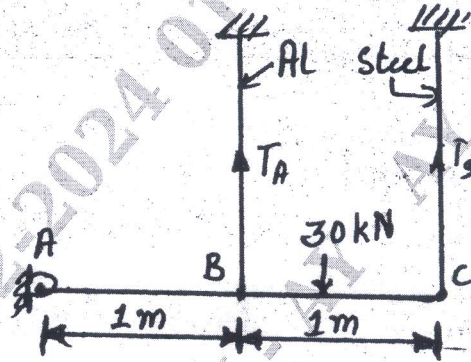

Fig Q9(b)
- b. A uniform rod of length 2m is hinged at A and supported at B and C by aluminium and steel wire of area of cross section 3mm^2 and 2mm^2 respectively. A load of 30kN is applied midway between B and C as shown in Fig Q9(b). If $E_{\text{AL}} = 10^5\text{MPa}$; $E_{\text{Steel}} = 2 \times 10^5\text{MPa}$. Determine :